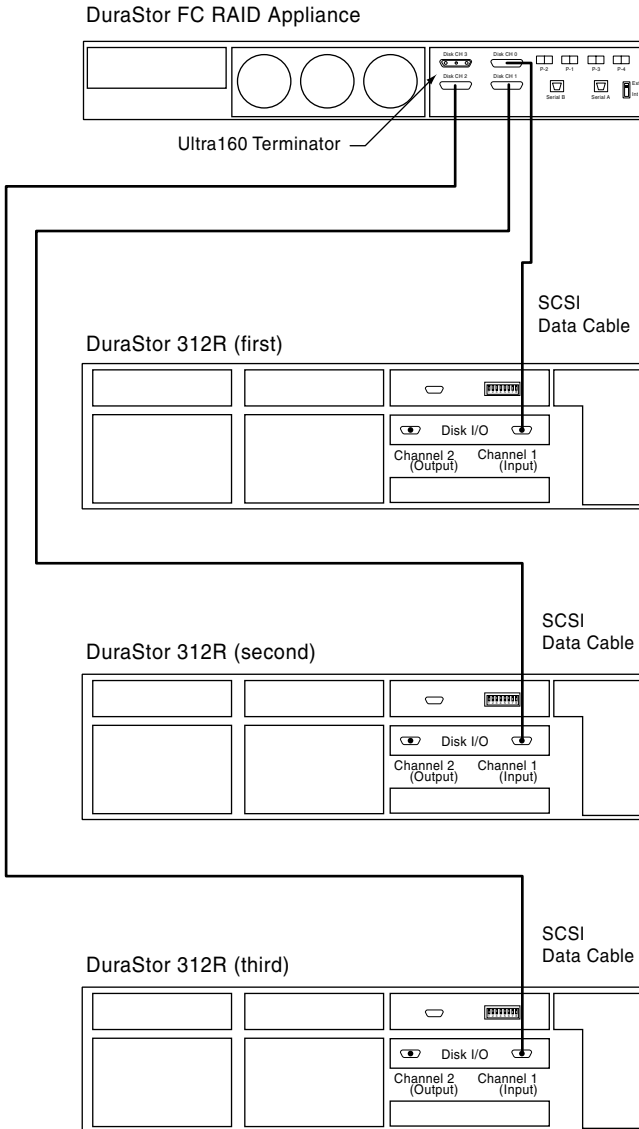

Figure 3-24 25–36 Drive Cabling Diagram
- 2 Connect the DuraStor Fibre Channel-to-SCSI RAID appliance to the DuraStor 312R using SCSI data cables as shown in Figure 3-24.